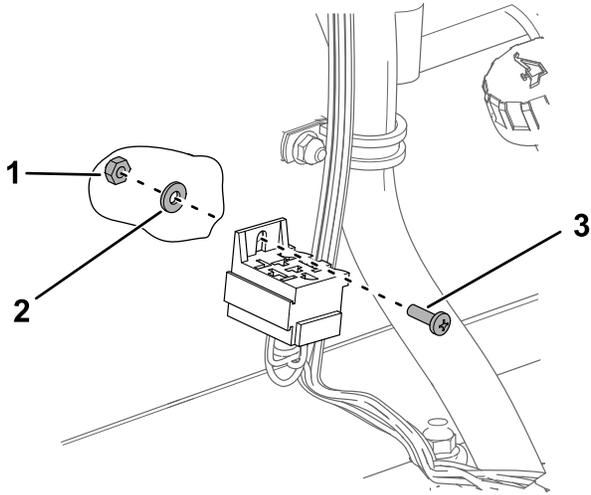

Figure 2
- Remove the screw, washer, and nut securing the connector to the tower (Figure 2).
4. Install the connector to the tower using the screw, washer, and nut removed previously (Figure 2).